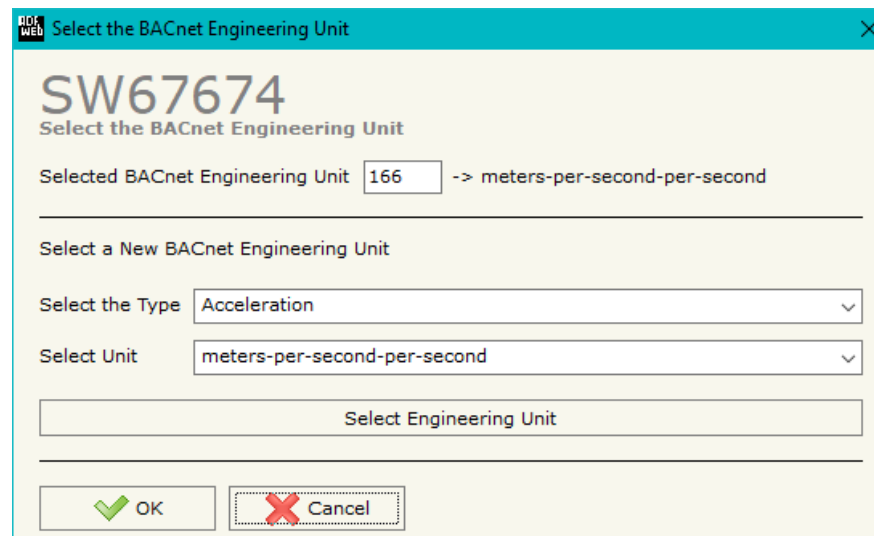

Figure 5: "Select the BACnet Engineering Unit" window
- In the field **"Eng. Unit"**, with double click the window *"Select the BACnet Engineering Unit"* appears (Fig. 5);